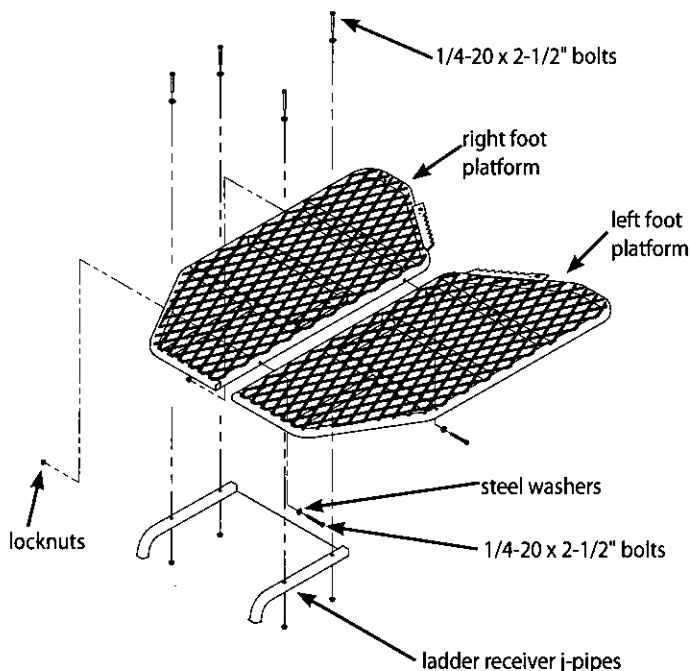

Figure 1
1. Attach (1) ladder receiver J-pipe (112ML70) to the bottom of left foot platform (112ML66) and (1) ladder receiver J-pipe to the bottom of right platform (112ML69) using (4) provided 1/4-20 x 2-1/2" bolts, locknuts and steel washers. **SEE FIGURE 1. DO NOT tighten all nut and bolt assemblies completely!**
2. Attach left and right platforms together using (2) provided 1/4-20 x 2-1/2" bolts, locknuts and steel washers. **SEE FIGURE 1.**